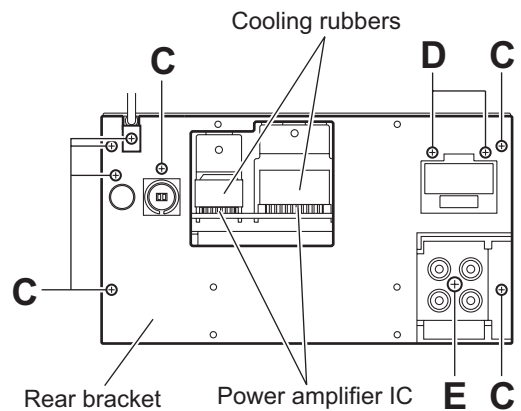

Fig.4
- Before attaching the heat sink, attach the cooling rubbers on the power amplifier IC. (See Fig.4)
### 3.1.3 Removing the rear bracket (See Fig.4)